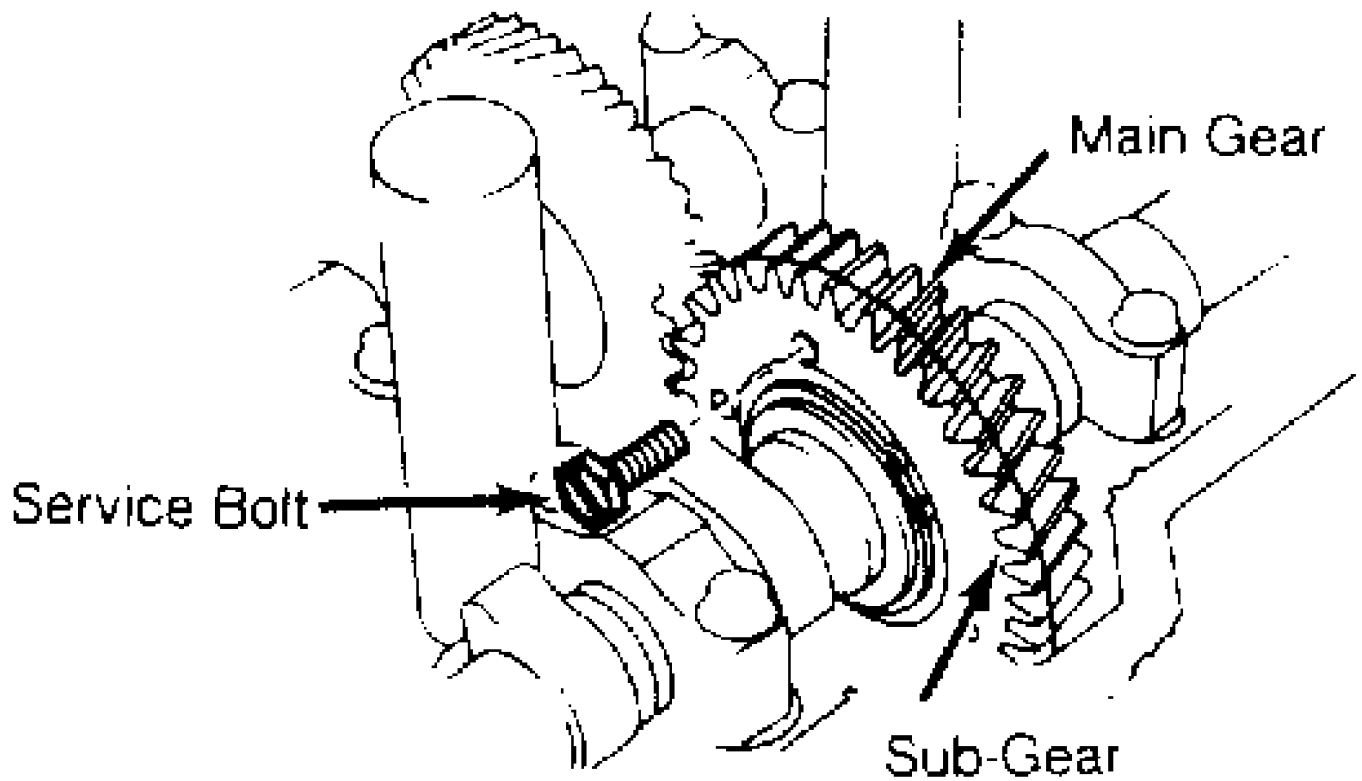

Fig. 12: Securing Exhaust Camshaft Sub-Gear
2) Secure exhaust camshaft sub-gear to main gear with a 6 X 1.0 X 18 mm service bolt. See Fig. 12. When removing camshaft, ensure torsional spring force of sub-gear has been eliminated by installation of service bolt.